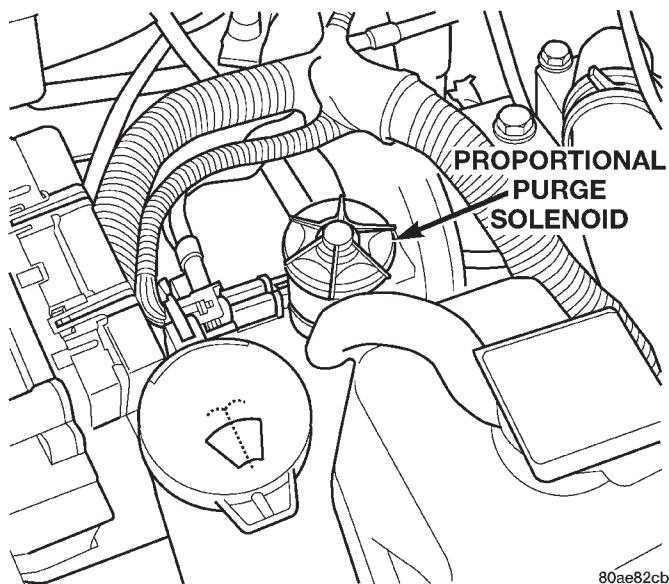

Fig. 79 Proportional Purge Solenoid
(8) Verify the electrical connector is attached to the Proportional purge solenoid (Fig. 79) and not damaged.
(9) Verify the vacuum connection at the Proportional purge solenoid is secure and not leaking (Fig. 79).